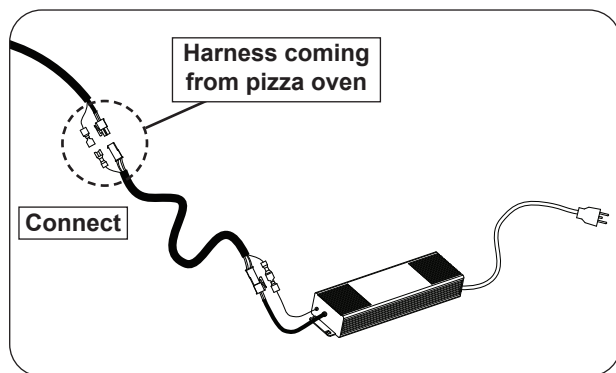

Fig. 27-1 Connect power supply to pizza oven
1. Take the power supply with pre-attached wire harness extension and connect it to the harness coming from the pizza oven. See Fig. 27-1.